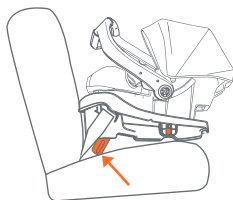

Fig. 55-4
- If the Seat Angle Indicator bubble level (4-22 lb.) is not centered or level line (23-35 lb.) is not parallel with the ground, extend the elevation foot, under the front of the base at the foot end to achieve the correct position (Fig. 55-4). If the correct elevation can not be achieved **see section 7.5 Elevation Aids**. Re-tighten the vehicle seat belt as instructed in section, securing the Safety Seat or Base in the Vehicle.